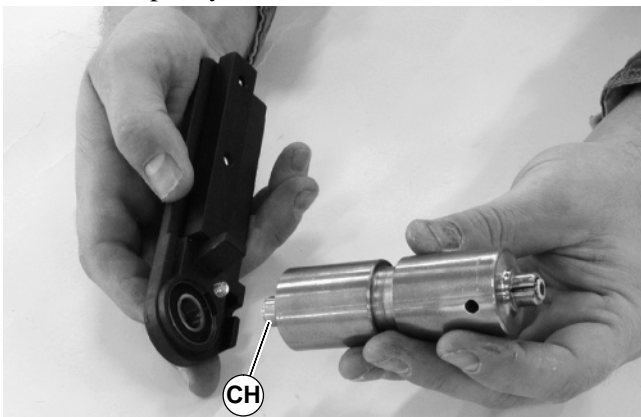

Figure 53
1. With bearing installed in head plate, press bearing on to shaft (CH of Figure 53) of pulley. Repeat for both sides of pulley.